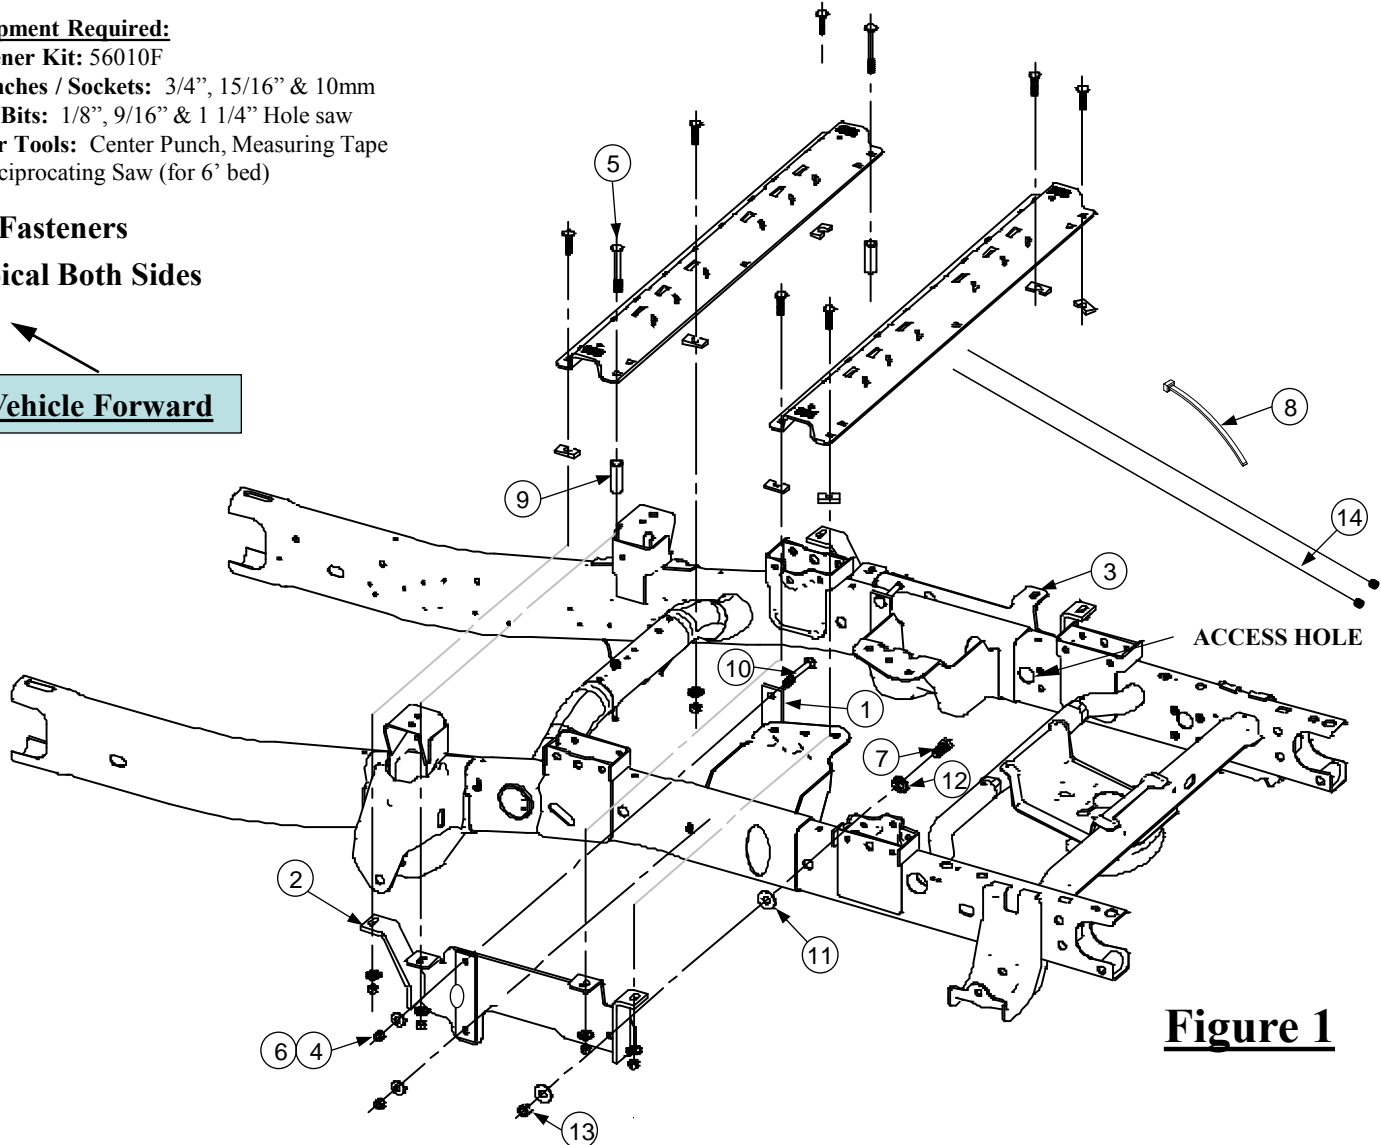
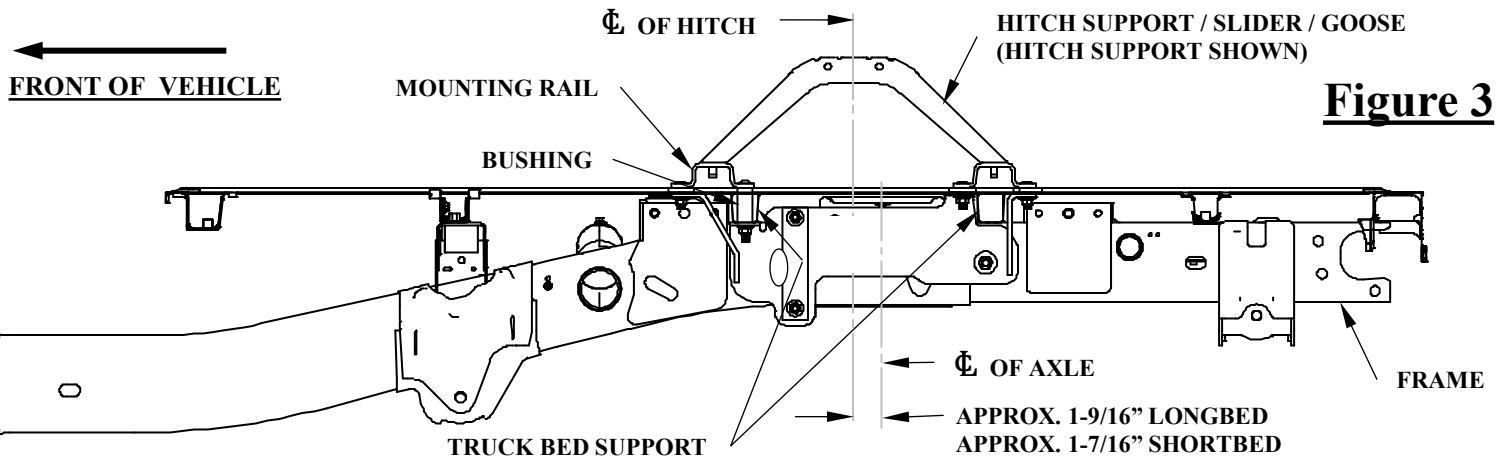

Figure 1
Figure 3
4. Place the rear mounting rail in the box of the truck, using your tape measure, center the rail between the weld seams on the width of the truck box floor and the proper distance from the rear edge of the truck box as shown in Figure 3.
5. Mark and center punch the holes as shown in Figure 3. Move the rail out of the way and drill each position with a 1/8" drill bit.
8. Using 5/8" pull wire (14) install 5/8" bolt (7) through access hole on the inside of frame, place 5/8" flat washer (11) on the 5/8" bolt (7) on the outside of frame. Route the pull wire through rear hole of the frame bracket (2) (3), loosely install the 5/8" flat washer (11) and 5/8" nut (13). (See Figure 1)
9. Loosely install straps (1), carriage bolts (10), side brackets (2) (3), washers conical 1/2" (4) and nuts 1/2" (6). (See Figure 1.)
10. Move the mounting rail into position. Install the 1/2"-13 x 2 1/2" carriage bolts with the U-shaped spacer to be located in the corrugation between the box and the mounting rail or between the box and the side bracket (2) (3). **(Note the U-shaped spacer is to eliminate crushing bed corrugation.)** Attach with spacers and nuts as per the illustrations and tighten snug to keep the mounting rail from moving.
13. Enlarge row 2 holes in bed only to 1 1/4". (See Figure 3)
14. Install bushing (11) in to the 1 1/4" hole. Move front mounting rail into position. Install the 1/2"-13 x 4 1/2" carriage bolts (5) through rail, bushing (11), box support and side bracket (2) (3). Attach 1/2" tooth washers and 1/2" nut per the illustrations and tighten snug to keep the mounting rail from moving.
16. Secure the wire harness with the wire tie supplied (7).